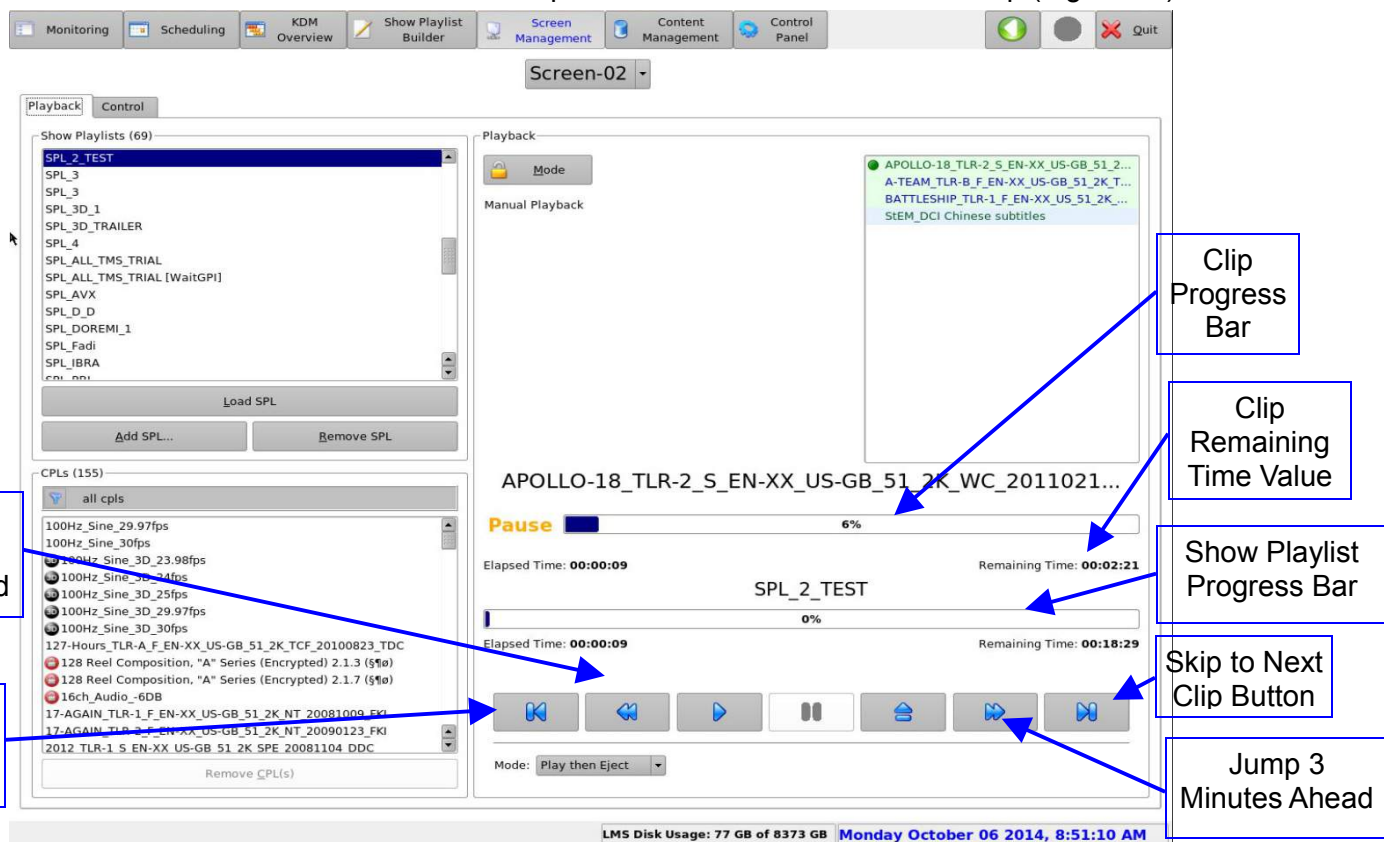

Figure 74: Preview Tab in Pause Mode
- While being in Pause mode, the user can skip to the previous clip or to the next clip within the Show Playlist. The user can also directly go to three minutes after the pause location or go back to three minutes before the current pause location within the current clip (Figure 74):
- While in pause mode, the user can locate within the current clip by clicking on the Clip Remaining Time value (Figure 74).